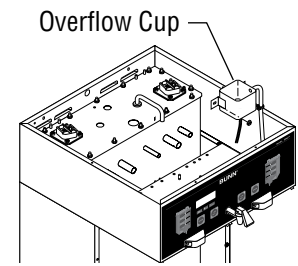

FIG 3
5. Depending on the model being modified, removal of the overflow cup may facilitate this procedure. If necessary, remove the two nuts holding the overflow cup in place and move the cup out of the way. (FIG. 3)